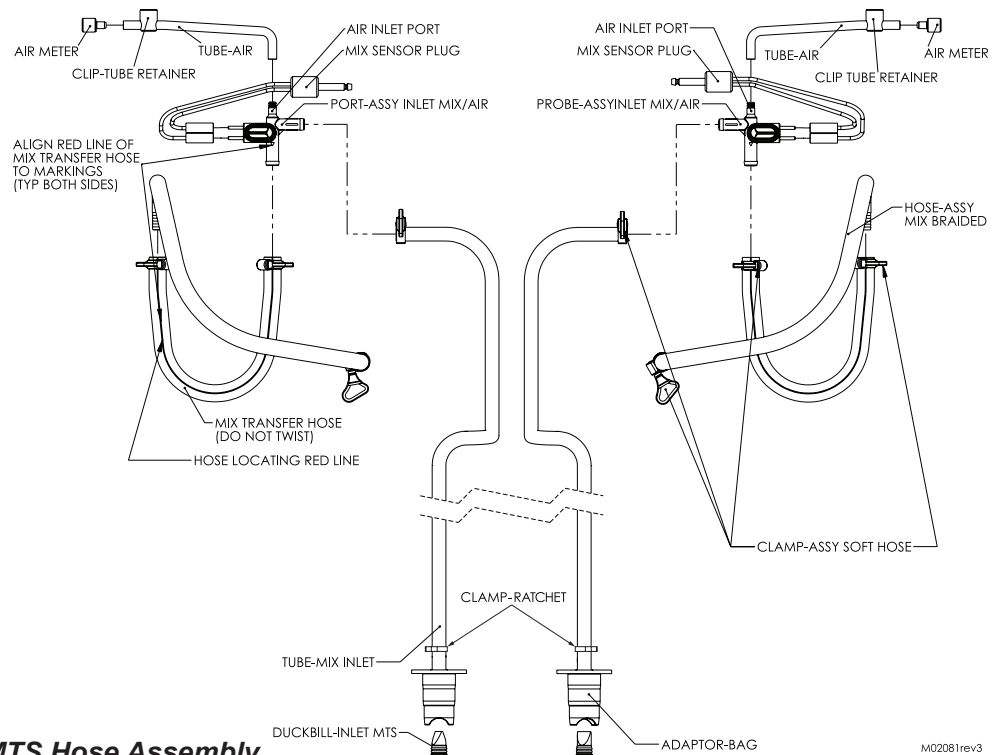

Figure 8-5 MTS Hose Assembly
9. Disassembly MTS hose assemblies as shown in figure 8-5, and take to cleaning sink.